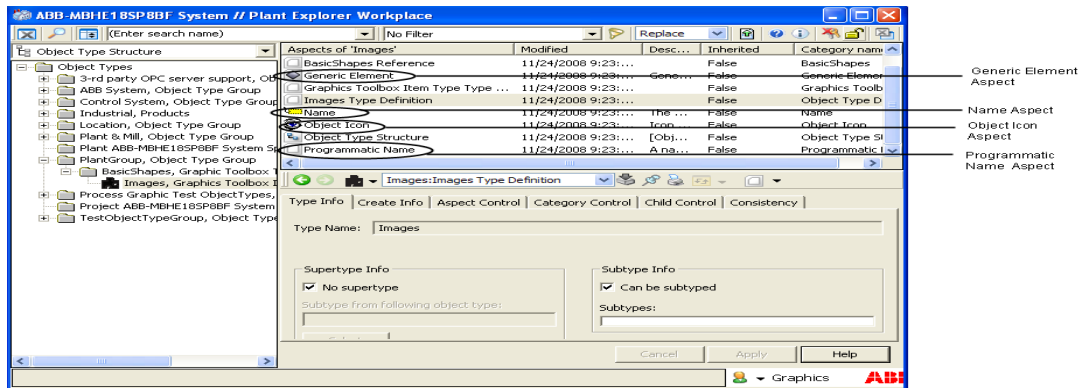

Figure 279. Aspects of Toolbox Item object
6. Select the **Generic Element** aspect of the toolbox item object as shown in Figure 279.
- Select the **Name** aspect of the toolbox item object as shown in Figure 279. Type a name for the aspect in the preview area.
9. Select the **Programmatic Name** aspect of the toolbox item object as shown in Figure 279.
12. Right-click on **Object Icon** aspect (refer Figure 279) and select **Details** from the context menu. Repeat step 7. This aspect is used for defining icon for the element in the toolbox.